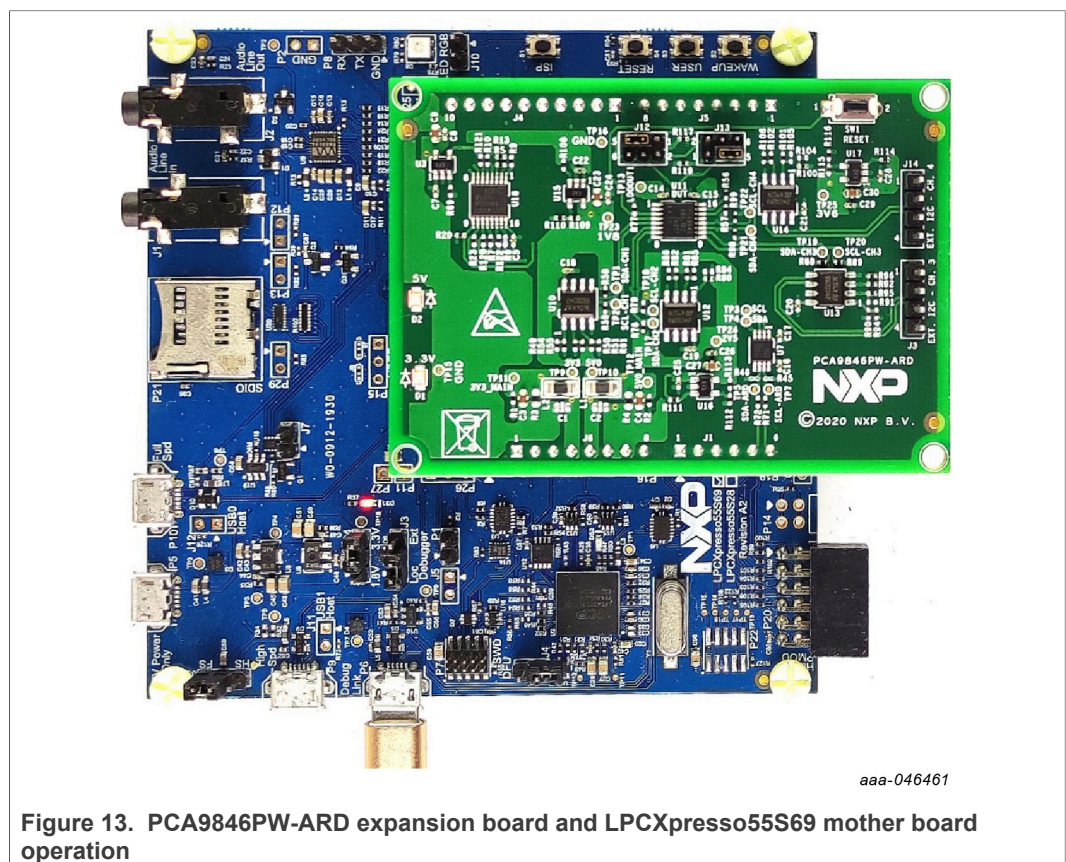

Figure 13. PCA9846PW-ARD expansion board and LPCXpresso55S69 mother board operation
Figure 13 shows the two boards in operation.
To operate the setup, along with the EVK and the expansion board, a third board must be included in the setup assembly. Figure 13 shows the necessary boards and how these boards are connected. The configuration consists of:
To power up the EVK, a USB-C-type cable connected to PORT 2 of the EVK is used. The power switch SW101 on the EVK board must be set to ON to power up the setup. Data communication is achieved by routing a separate USB (Micro-B type) cable from an USB port on the PC to debug port (J901) on the EVK. See Figure 13 and Figure 14.
2. Attach IMXMMINI-IARD connector plug J1 (located on the bottom of the board) into J1003 expansion board located on the top side of i.MX 8M Mini LPDDR4 EVK. See Figure 13.